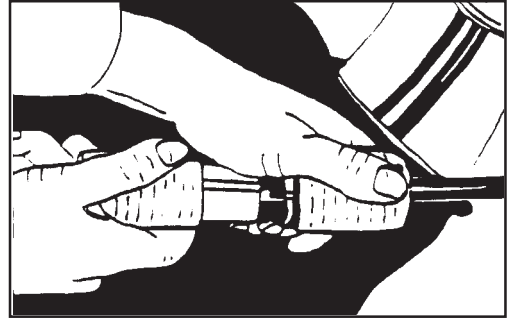

Figure 3
2. Connect the extension cord to the short power cord on the machine. See figure 3.